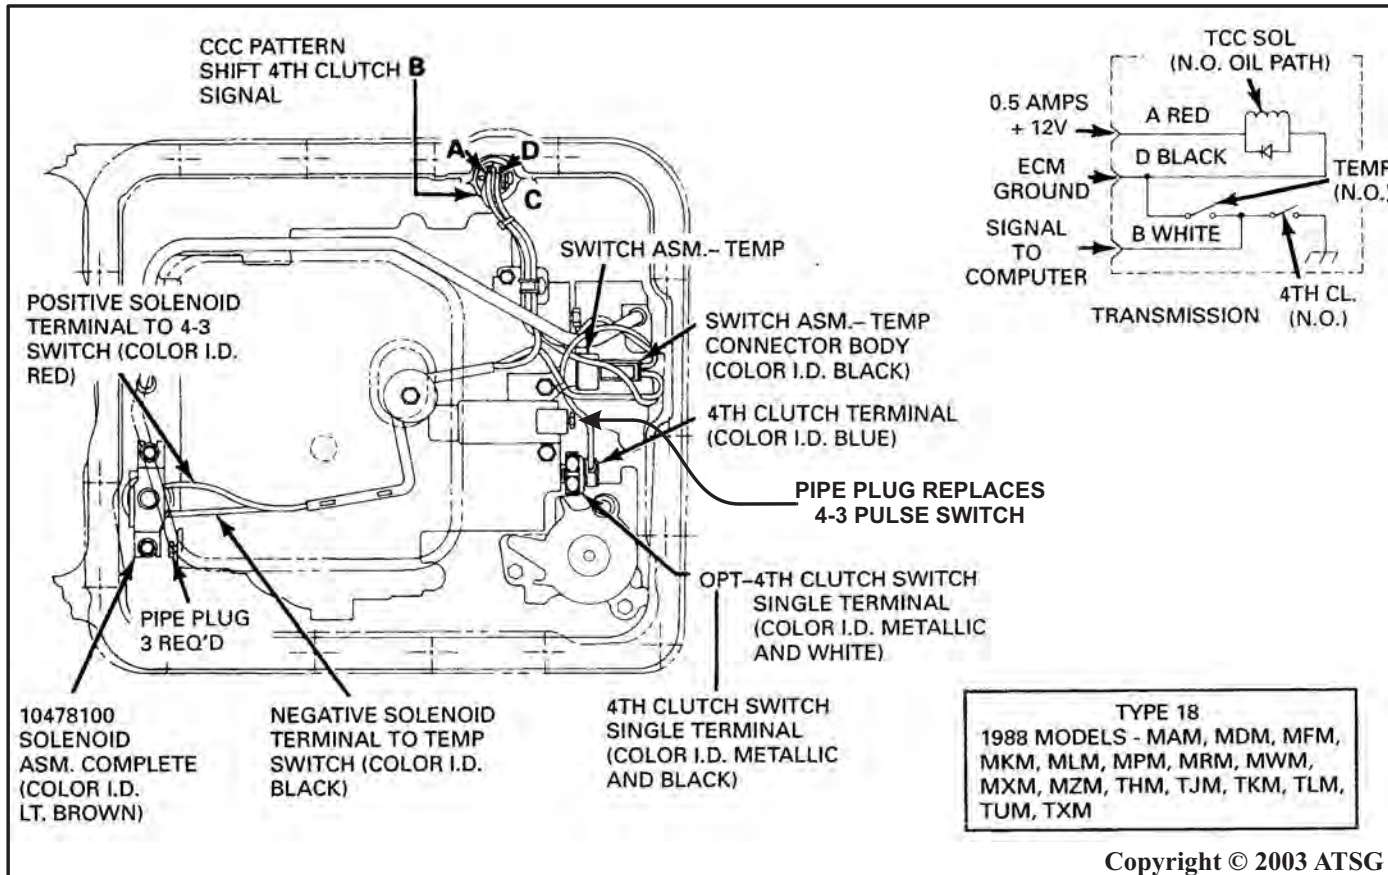

Figure 59
CHANGE: Beginning on May 10, (Julian Date 130) 1988, the 4-3 pulse switch located on the valve body was eliminated, which created a new Type-18 internal wiring harness, as shown in Figure 59. The new Type-18 internal wiring harness was implemented on only the models listed in Figure 59 and replaces the previous Type-15. Refer to Page 54 for illustration of the Type-15 internal wiring harness and the location of the switch that was eliminated.
- (1) VALVE BODY - The 4-3 pulse switch was eliminated, and replaced with a pipe plug, as shown in Figure 59.
- (2) INTERNAL WIRING HARNESS - Now becomes a Type-18 internal wiring harness with the wires required for the 4-3 pulse switch eliminated, as shown in Figure 59. The new Type-18 internal wiring harness can be identified by the solenoid insulator color, which is Lt. Brown and has 8100 cast into the solenoid insulator (See Figure 59).